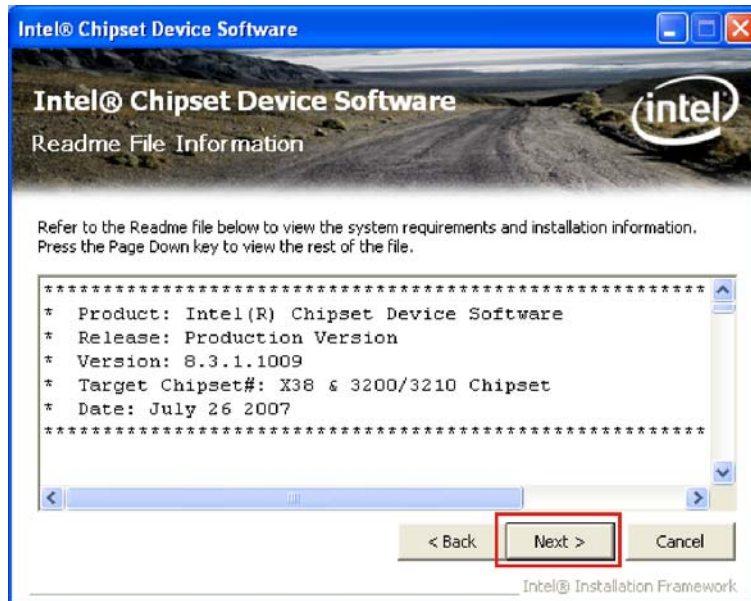

Figure 6-6: Readme File
Step 7: The Readme file contents are displayed (**Figure 6-6**).